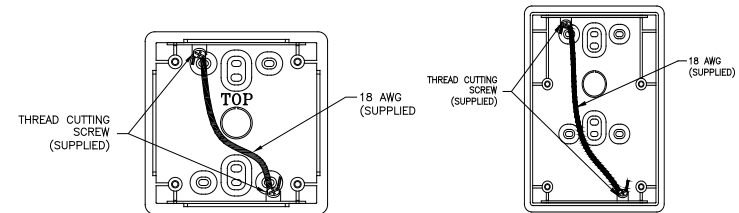

Figure 6: Surface Backbox E50SB (left) and E50SSB (right)
**NOTE:** Surface backbox (E50SSB) in Figure B, is compatible with wiremold and conduit. Mounting holes are for single-gang, double-gang, and #10 wood screws for stud mounting. If metal conduit is installed onto top and bottom conduit entrances, then an insulated grounding wire (18 AWG, supplied) must be connected between the top and bottom plate by using thread cutting screws (supplied) to provide electrical continuity per UL 50. See Figure 6.